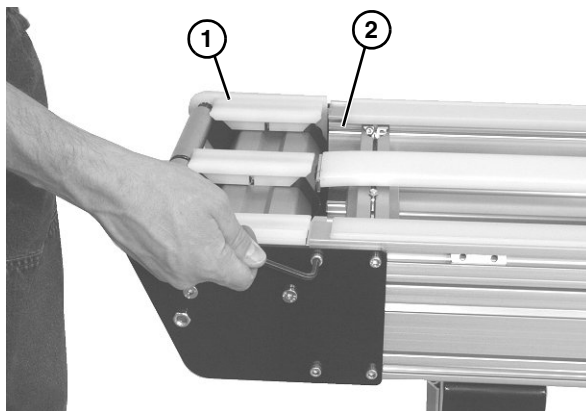

**Figure 50**
- Check idler terminal assembly on each side (**Figure 50, item 1**) for wear. If worn, replace.
- Remove and replace wear guides (**Figure 50, item 2**) if worn. When replacing, secure onto pins on each support plate.